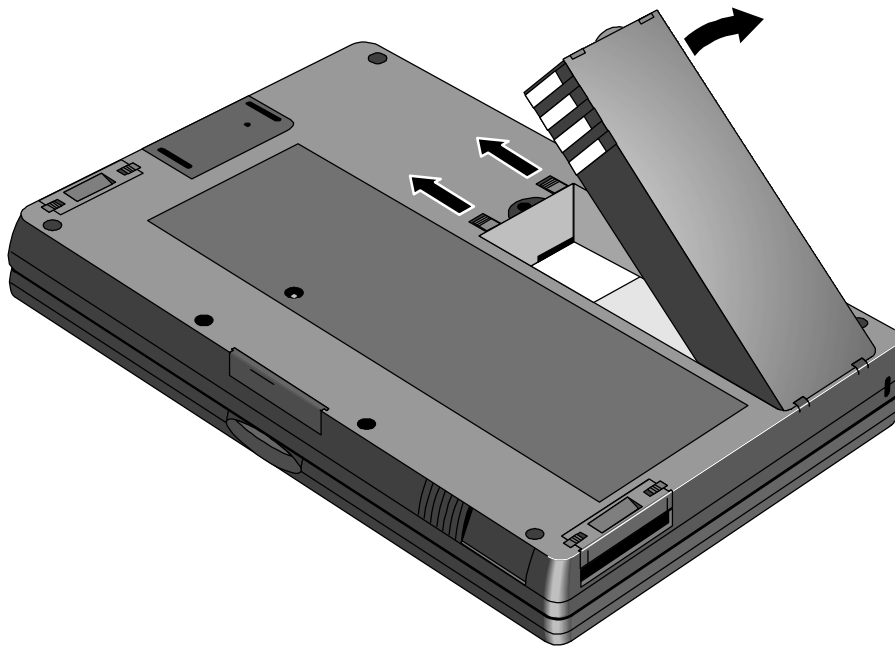

Figure 15 - Removing the Battery
2. Turn the unit over and slide the two latches away from body of battery and lift the battery out. See Figure 15.